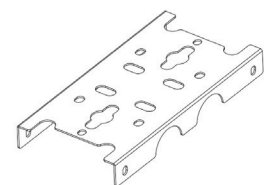

Figure 8
- If row mounting is desired, remove knockouts on the ends of abutting fixtures and attach optional joiner bracket to the top of abutting fixtures (Figure 8).